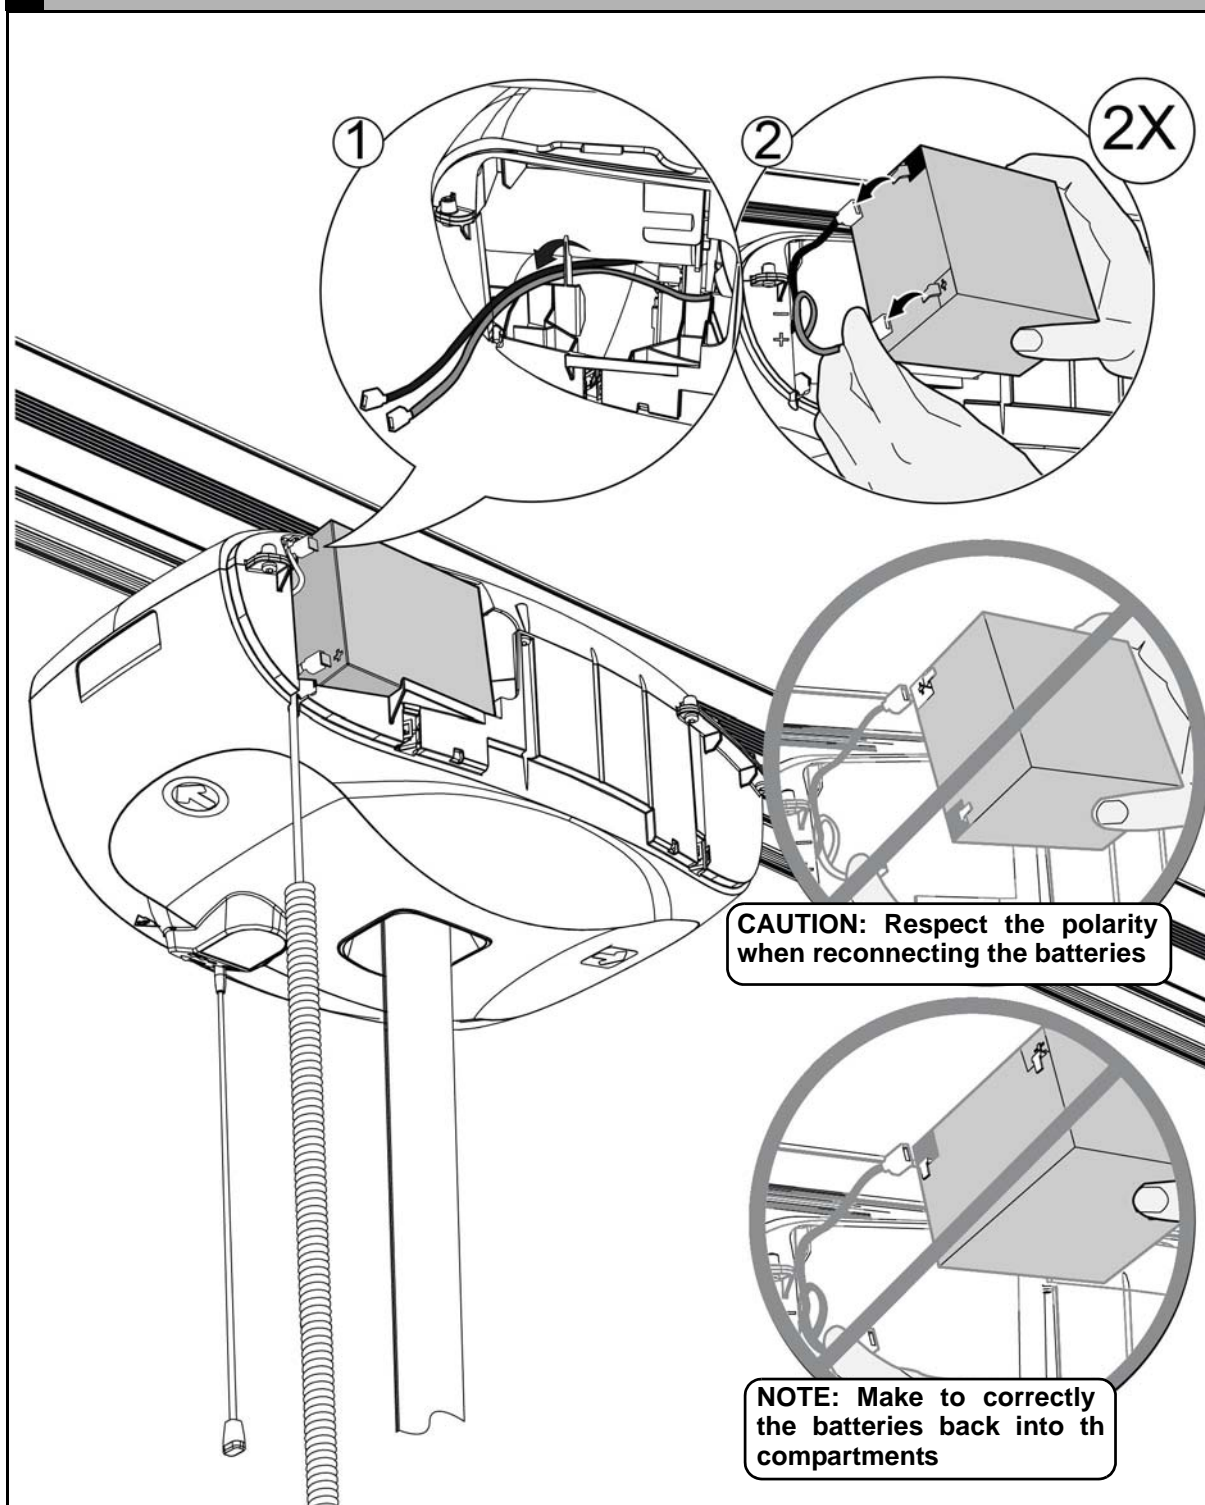
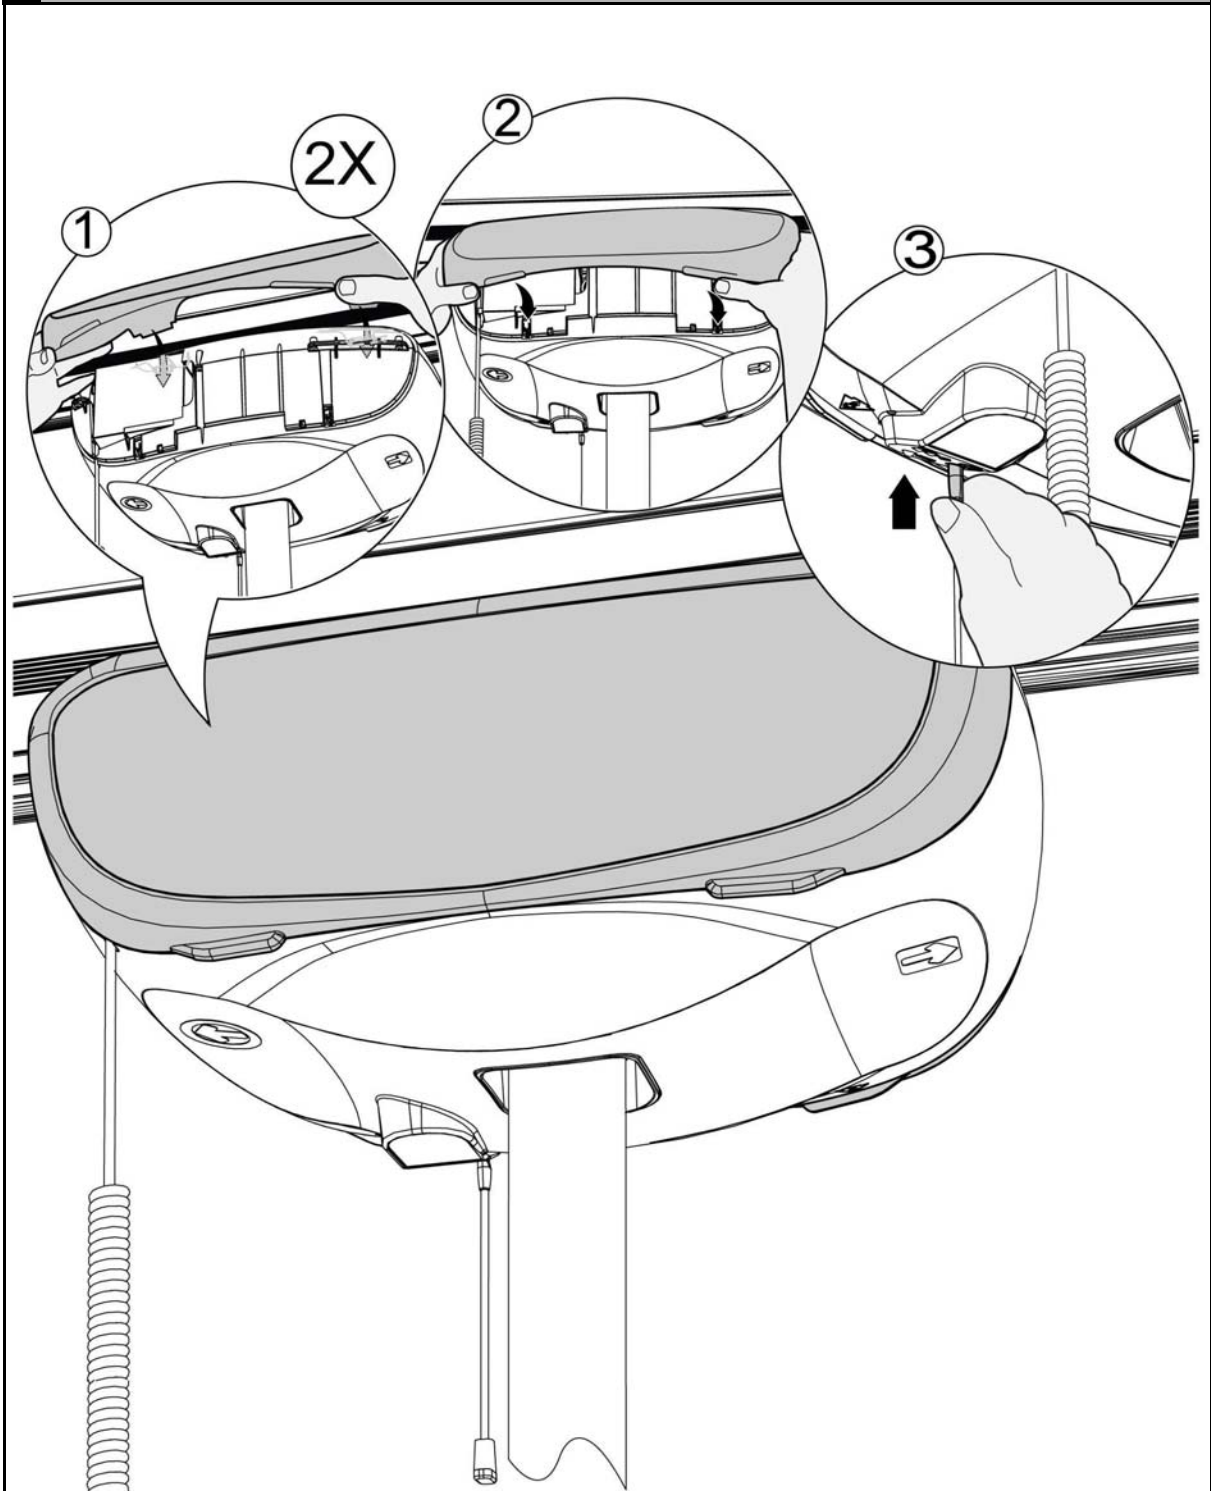

Fig. 5
Fig. 6
- ① Reconnect the handset jack to the socket located on the plastic housing.
- ② Thread the cable through the various points in the strain-relief.
- ③ Secure the handset cable by clipping it to the unit's plastic housing.
- ④ Reinstall the battery (see Fig. 5) and side panel (see Fig. 6). The unit can now be turned back on by pushing upwards on the plastic insert switch.